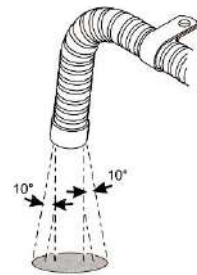

Fig.27
4.6.6 When the heat is working, the exhaust pipe is at high temperature. In installation, make sure to install it in far distance from plastic parts or other objects with poor thermal resistance of the vehicle body. The exhaust pipe shall be properly fixed. The exhaust vent shall be downwards, perpendicular to road surface with an angle of $90^\circ \pm 10^\circ$. To ensure such an angle, the fixing clamp for the exhaust pipe shall be within 150mm from the pipe end. (Fig. 27)